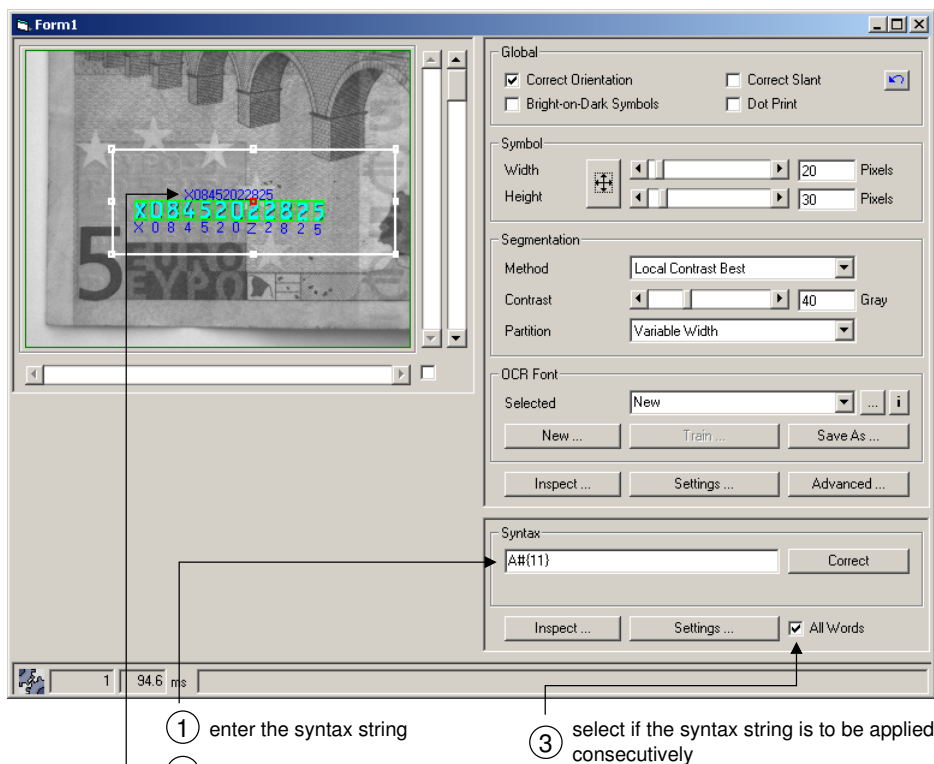

Figure 3.1: The basic usage of ActivWordProcess.
- ☐ Execute the application (Run ▸ Start or via the corresponding button) and load the image sequence `ocr\money1.seq`. If necessary, place an axis-aligned, rectangular ROI as shown in figure 3.1.
The following steps are visualized in figure 3.1.